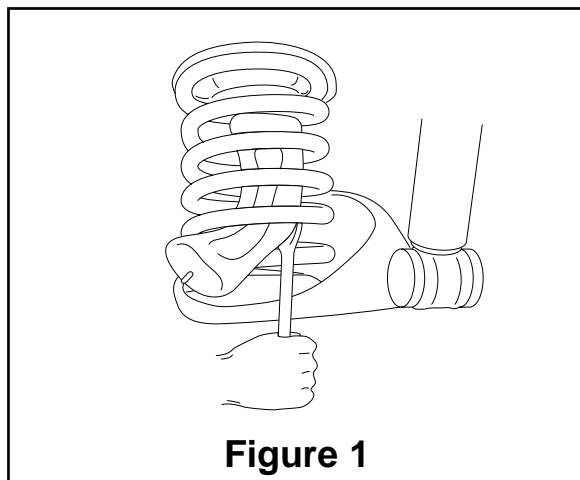

Figure 1
3. Insert flattened air cylinder into coil spring through lowest opening with stem at the bottom (Figure 1).
If the vehicle's headlights are shining into the trees or the vehicle is leaning to one side, then it is not level (fig. 1). Raise the air pressure to correct either of these problems and level the vehicle.